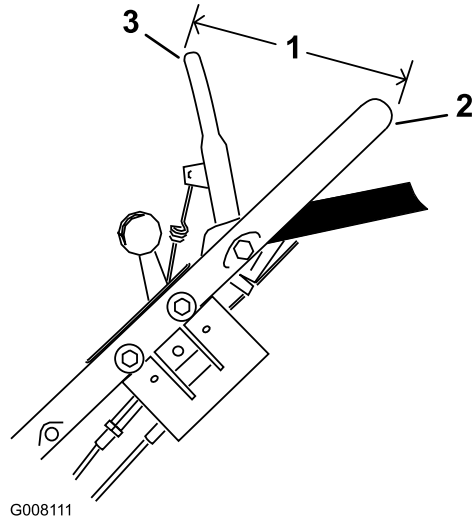

Figure 30
6. Hold the blade control bar so that the **outside** of the bar is 5-1/2 inches (14 cm) from the **outside** of the handle, and pull the cable to remove the slack, but do not put tension on the spring (Figure 30).